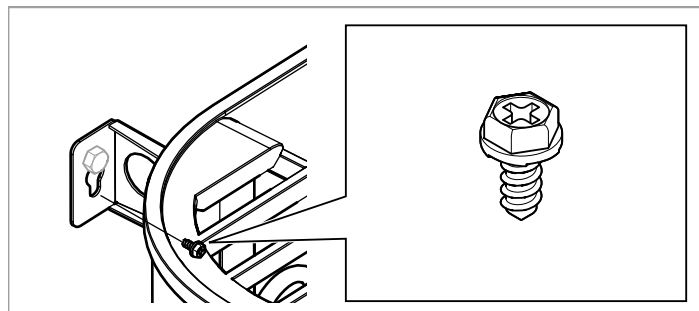

Figure 10: Lock screw for bracket
- 8. Lock the heater into place with the lock screw see Figure 10, Page 7.